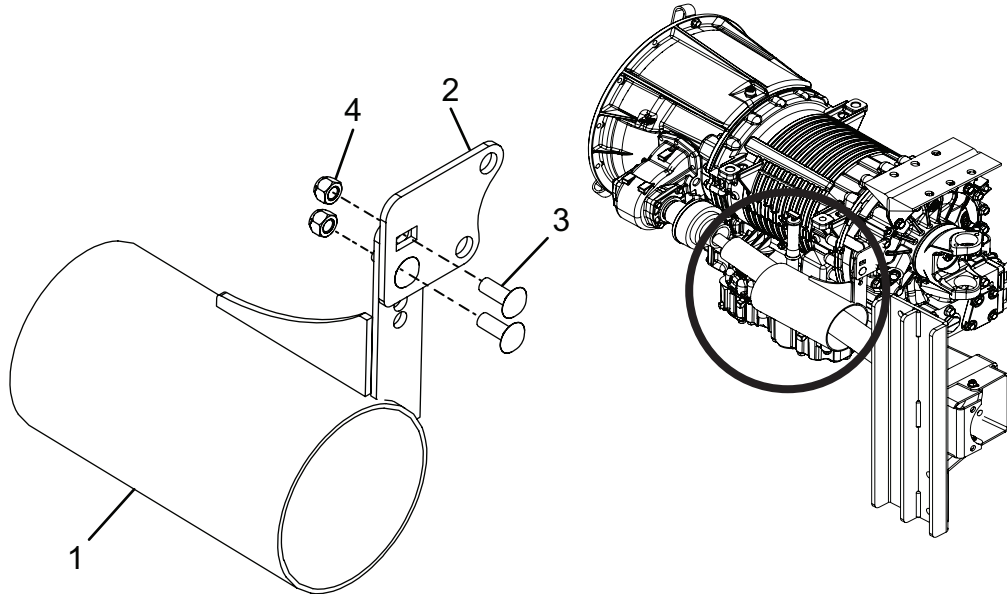

Figure 11
12. Using the appropriate wrenches, reinstall the retained hardware (see Figure 11, Items 3 and 4) to attach the circular Pump Mount cover (Figure 11, Item 1) to the support plate (Figure 11, Item 2). Tighten hardware until tight.